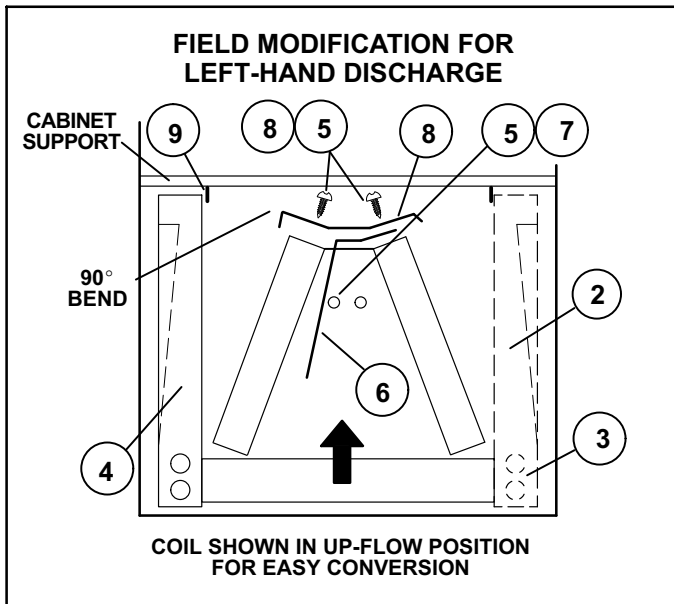

FIGURE 26
- 5- Remove screws from top cap. Remove horizontal drip shield screw located in the center of the back coil end seal. See figure 26.
- 8- Rotate top cap 180° front to back and align with unused screw holes. Holes must align with front and back coil end plates. Note that top cap has a 45° bend on one side and 90° bend on the other. **The 90° bend must be on the same side as the horizontal drain pan.** See figures 26 and 27.
- 9- From the upflow position, replace coil assembly. Then flip cabinet 90° to the left and set into place. Replace coil assembly. Secure coil in place by bending down tab on cabinet support rail. See figures 26 and 28.